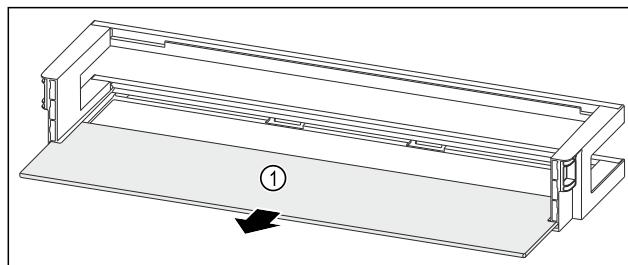

Fig. 109 Door rack with shelf
- ▶ Remove the shelf Fig. 109 (1).